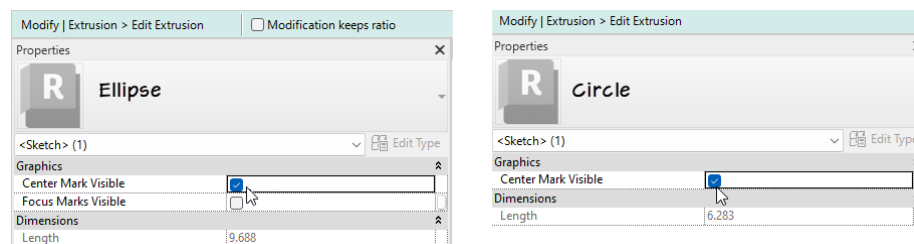

Figure 9—Enable the Center Mark or Focus Marks for Circles and Ellipses on the Properties palette
- ⇒ Select the circle onscreen. On the Properties palette, check Center Mark Visible (see Figure 9 above). Deselect the circle, but do not finish the extrusion yet.